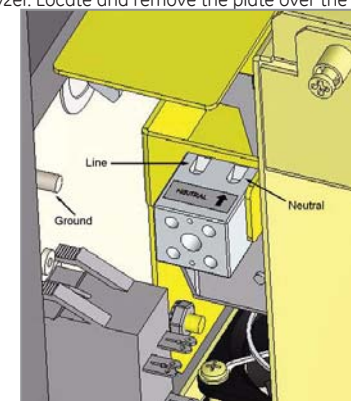

Figure 1 - Wiring AC Power
Step 4 Install power and control wiring (Figure 1).